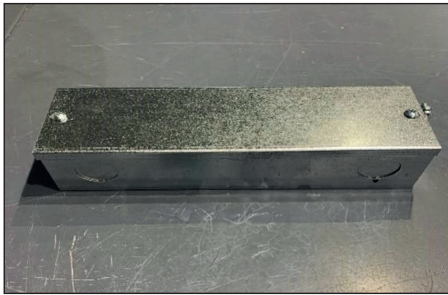

Fig. 6 - Remote/Semi-remote Driver
- Identify Remote/Semi-Remote driver and Z Brackets. [Fig. 6]
- Secure Remote/Semi-Remote driver on flat surface via provided Z Brackets (Typ. 2) [Fig. 6]. Depending on field condition, use appropriate screws to secure Z Brackets on driver box and flat surface. [Fig. 10]